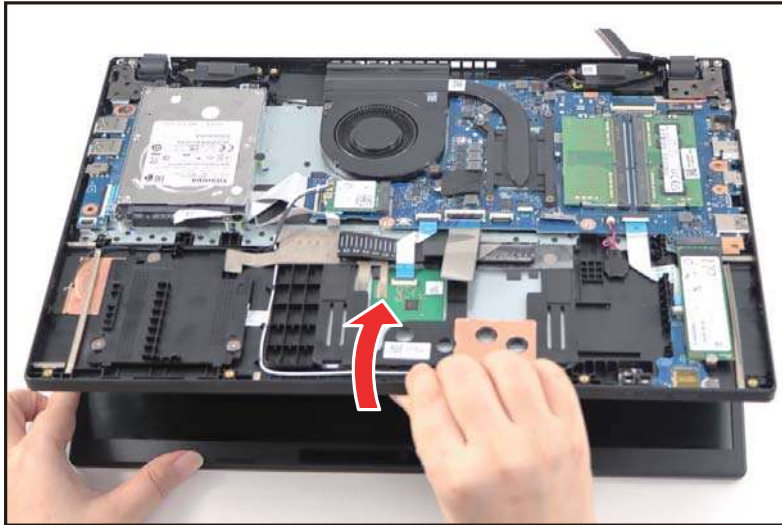

Figure 3-24. LCD Module Removal
4. Lift the top assembly until it is fully open (Figure 3-24).